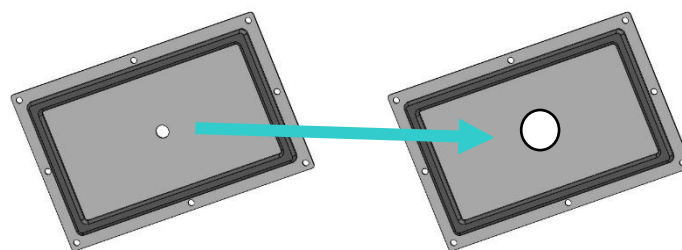

Figure 37 - Enlarge pilot hole in removable plate to fit over conduit used for AC Input wires
4. Using a drill, enlarge pilot hole in removeable plate outside of and away from the charger. Ensure new hole is large enough to feed AC power-in conduit and wires through (see Figure 37).